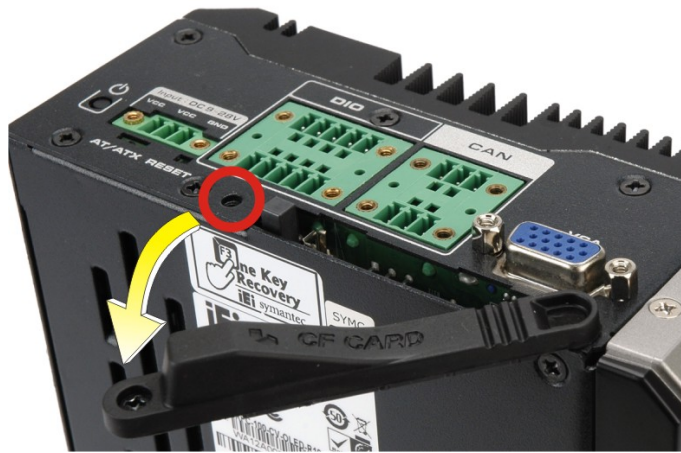

Figure 3-1: CF Card Slot Cover
- Step 2:** Release the retention screw that secures the CF card slot cover, and then open the cover as shown in **Figure 3-1**.